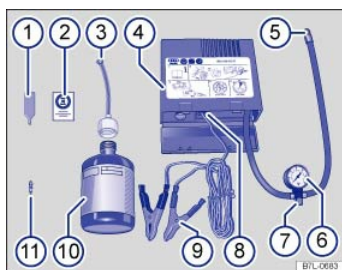
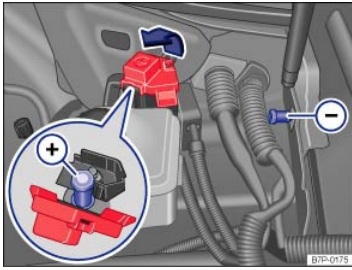

Fig. 216 Basic diagram: Contents of the tire mobility set.
Fig. 217 In the engine compartment: Compressor connection terminals.
The tire mobility set is stored in the luggage compartment under the floor panel. It contains the following ⇒ Fig. 216:
- Unscrew the valve core from the tire valve using the valve core wrench ⇒ Fig. 216① and place it on a clean surface.
- Vigorously shake the tire inflation cylinder ⇒ Fig. 216⑩ a few times back and forth.
- Tightly screw the filling hose ⇒ Fig. 216③ to the tire inflation bottle (turn clockwise). The foil on the seal is automatically pierced.
- Remove the sealing plug from the filling hose ⇒ Fig. 216③ and slide the open end onto the tire valve.
- Using the valve core wrench ⇒ Fig. 216① screw the valve core back into the tire valve.
- Screw the tire inflation hose ⇒ Fig. 216⑤ of the air compressor tightly to the tire valve.
- Check whether the air release valve ⇒ Fig. 216⑦ is screwed on tightly.
- Attach the cable clips ⇒ Fig. 216⑨ **only** to the jump-start terminals in the engine compartment ⇒ Fig. 217. The red clip on the compressor cable is connected to the positive ⊕ terminal; the black clip is connected to the negative ⊖ terminal.
- Switch the air compressor on using the ON / OFF switch ⇒ Fig. 216⑧,
Connect the tire inflation hose ⇒ Fig. 216⑤ again and read the tire pressure on the tire pressure gauge ⑥.